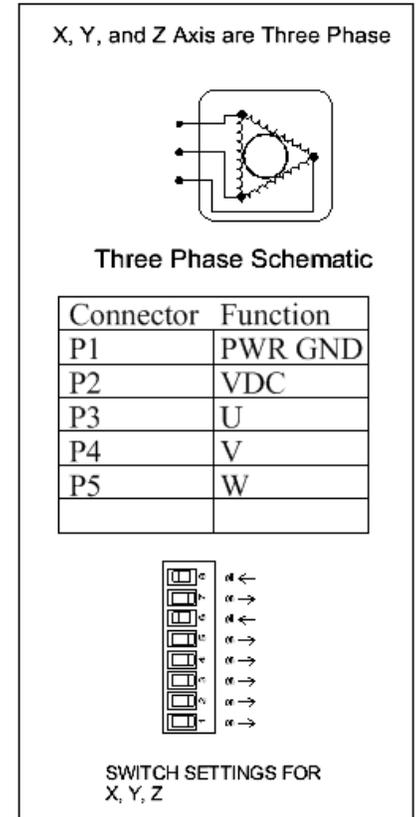

Figure 15
5. Ensure dip switch settings are correct: Switches 6 and 8 should be off, all others should be on (see **Figure 15**).
7. Connect power leads to driver. Wires 303, 305, 307 go to GND on X, Y and Z drivers respectively. Wires 302, 304, and 306 go to VDC on X, Y and Z drivers respectively (see **Figure 15**).